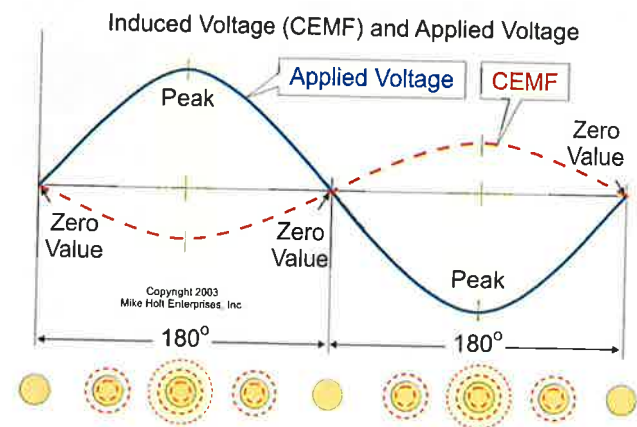

Figure 18-13
- A self-induced voltage waveform is 180 degrees out-of-phase with the applied voltage waveform. When the applied voltage increases or decreases, the polarity of the self-induced voltage is opposite that of the applied voltage. When the applied voltage is at its maximum in one direction, the induced voltage is at its maximum in the opposite direction. **Figure 18-13**